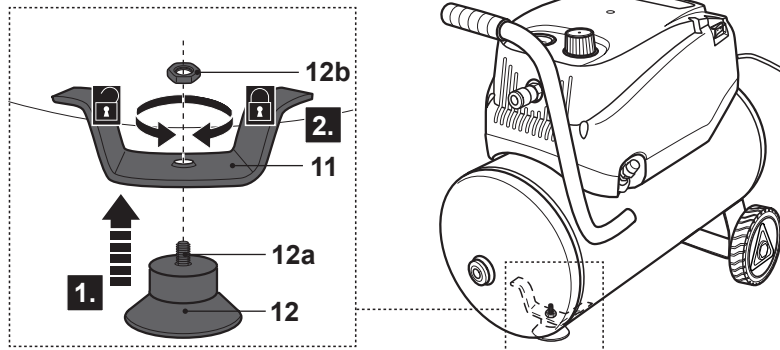

Fig. 2
- > Align the bolt (12a) of the foot (12) with the opening on the front support (11) and insert it (Fig. 2, step 1).
- > Screw the nut (12b) onto the bolt (12a) (Fig. 2, step 2). Do not overtighten.